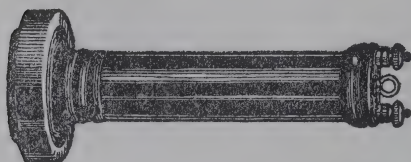

Fig. 61
23. *Telephone Receiver* (Fig. 61). — It requires a